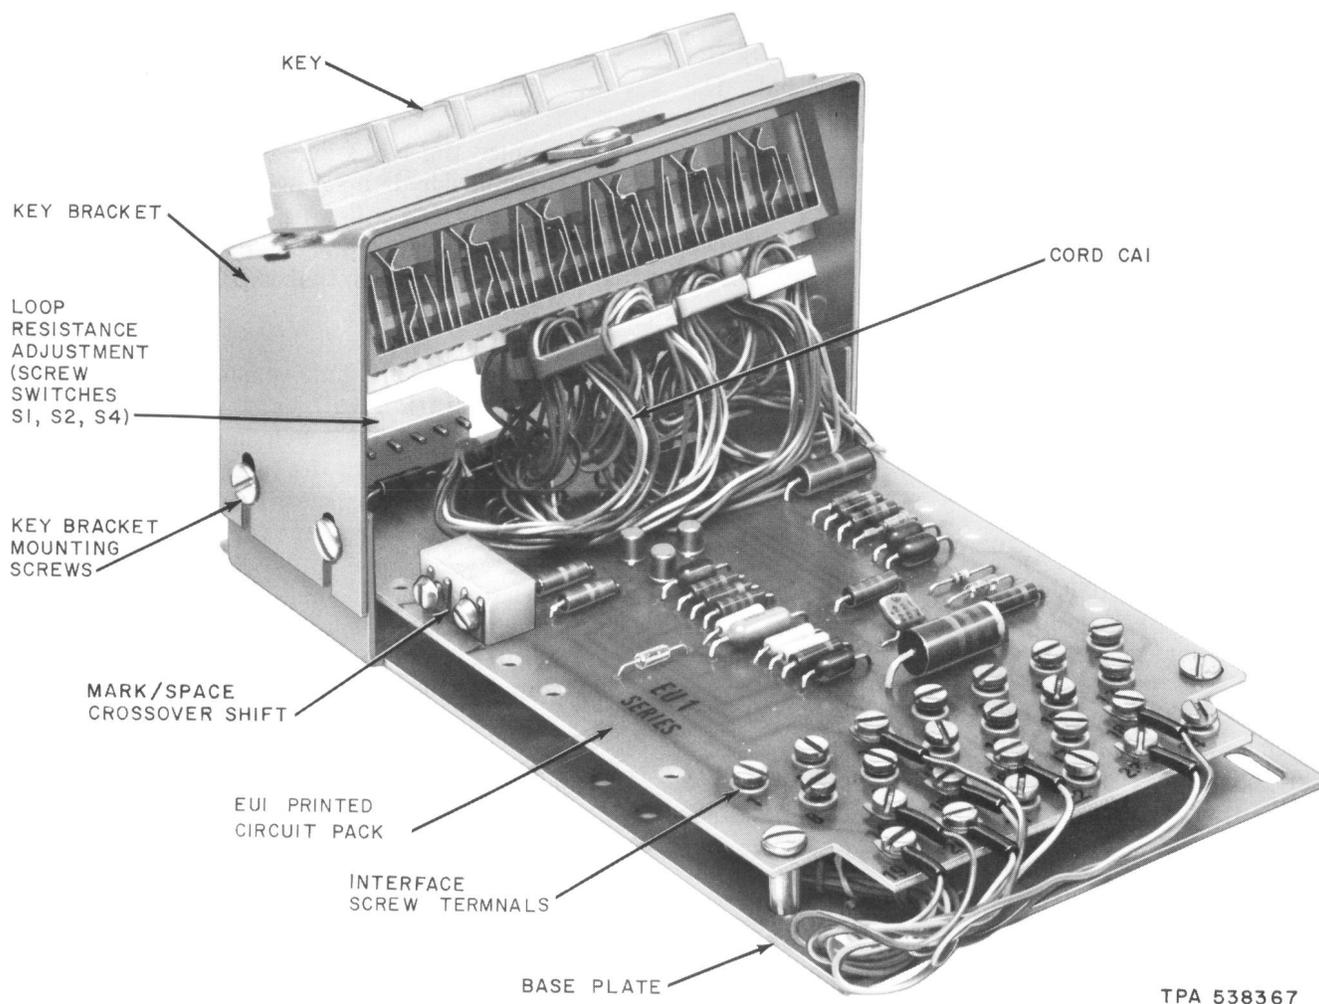

Fig. 2—Data Set 109C-L1
3.03 Data Set 109C-L1 consists of an EU1 circuit pack interconnected to a 635T2 key by means of a cord CA1 (Fig. 2). The way in which the circuit board is interconnected to the key via the local cable (CA1) determines the operational function of Data Set 109C-L1.
- (4) Make the screw switch settings determined in (3). The location of the screw switches is shown by Fig. 2.